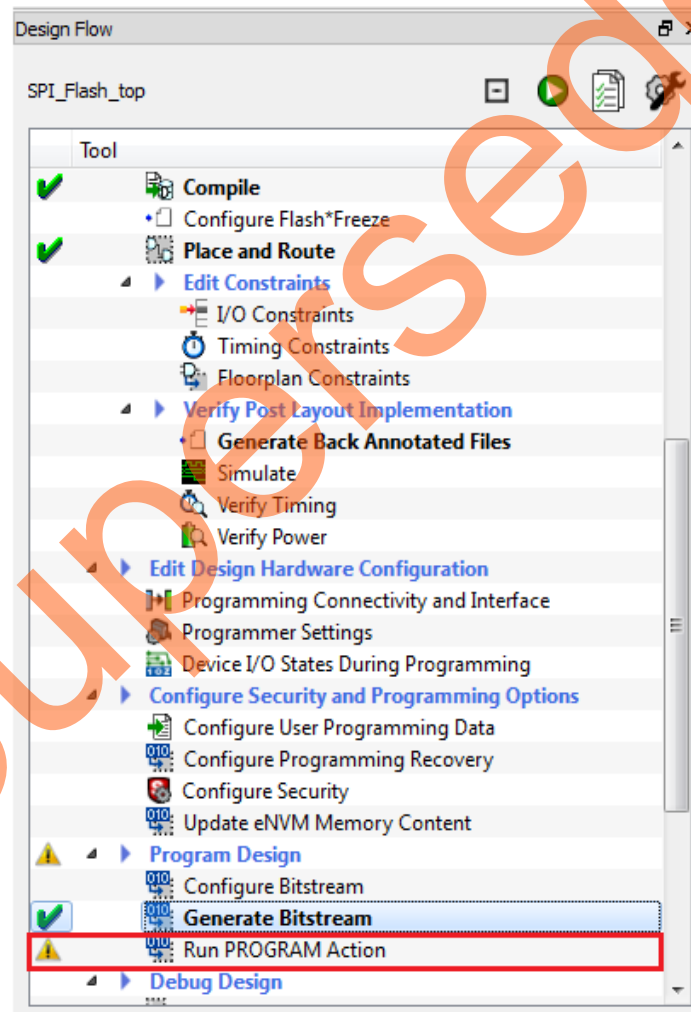

Figure 15 • Run Programming Action
5. To program the SmartFusion2 device, double-click **Run PROGRAM Action** in the **Design Flow** window as shown in Figure 15.